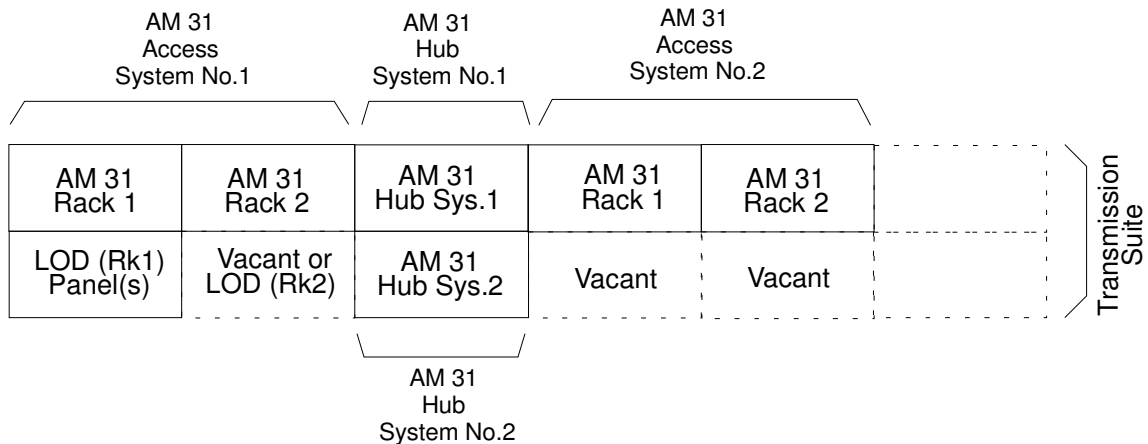

Figure 3 – Typical Floor Layout
Below in Figure 3, shows typical AM 31 installation within MTH, LTH and TAP (non-ARK) exchanges and potential growth using 600mm x 300mm rack footprint. Do not install against walls, eg. 300mm deep only. ARK and smaller exchanges have special thermal and power dissipation rules for AM 31 installations. Refer to Section 4.01.
Vacant rack footprints (see Figure 3) are designed within the layout to overcome excessive thermal and power usage. The AM31 rack behind the vacant footprint must be identified and marked not for use on the building floor plans. The AM 31 rack has a standard footprint of 600 x 300 mm. Telstra standard installation procedures as described in TM 00046 – Type 92 Racks shall be taken into consideration with the installation of these standard Type 92 racks.
- **Note:** If a single Access Sub-Rack maximum is used for one Hub system the total power for this sub-rack is 179 watts. The sub-rack cannot be mounted in the same rack as a two Access Sub-Rack Hub system in the location as shown in Figure 3. This configuration will exceed the maximum power allowed per rack – this set-up equals 528 watts/rack.